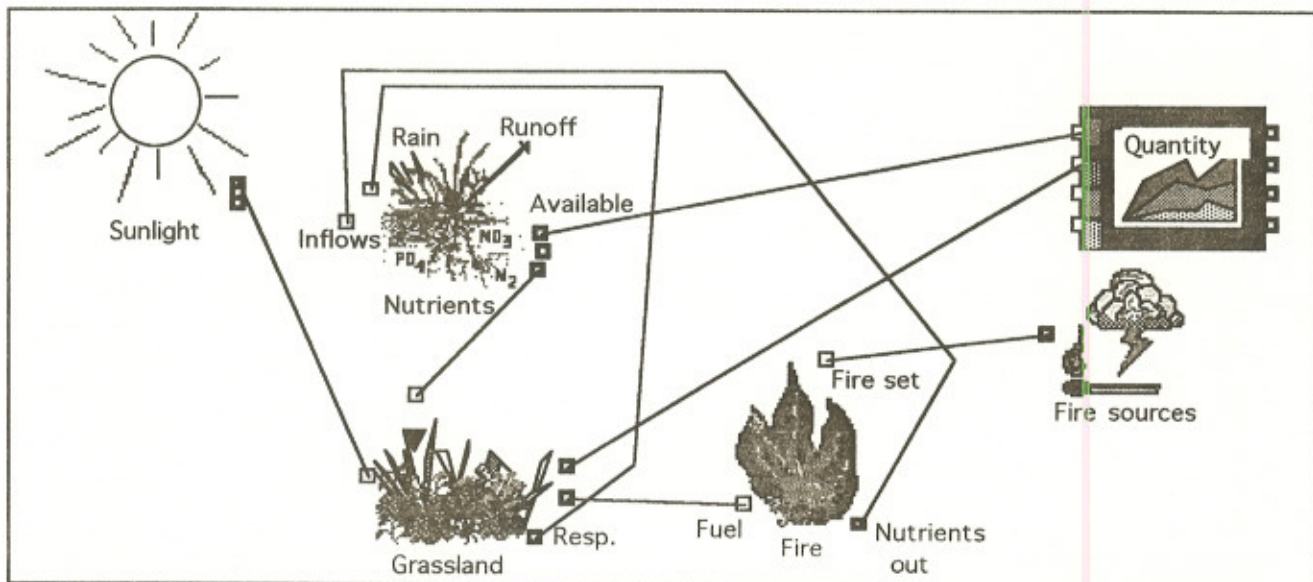

Figure 26. Model of grassland with fire and either lightning or a match to start it.
5. Something to start the fire is needed: pull down the **Fire sources** block (with the lightning/match icon) from the library and connect it to the top right input of the Fire block. Your model should look like Figure 26.
- Propose a management system for the grassland in Figure 26 as if it were a park where people came to see the grassland and to camp. Consider the survival of the grassland ecosystem and also the needs of the people who use the park.